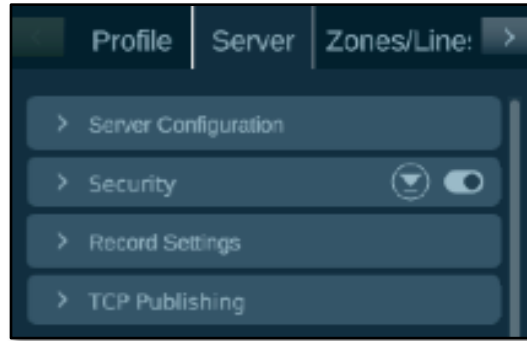

Figure 24. Security: Login Toggle On
1. From the **Configuration** mode panel > **Server** tab, expand **Security Login** panel header, click the **Security** toggle. See Figure 24. Security: Login Toggle On
7. From the **Configuration** mode panel > **Server** tab, in **Security** panel header, click the **Security** toggle. See Figure 24. Security: Login Toggle On